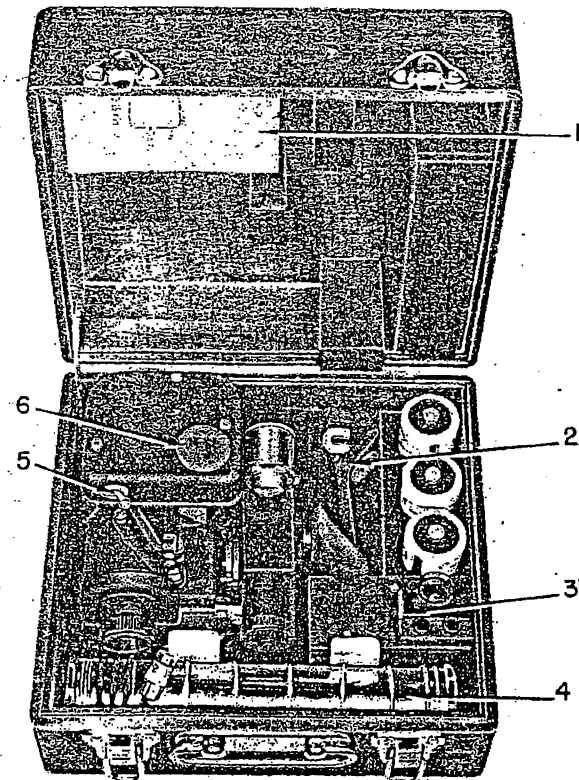

Figure 6—Carrying Case
x. BATTERY CASE ASSEMBLY.—The battery case assembly (4, figure 6) consists of a three-cell battery case with a four-foot cable and connector plug. It will accommodate three standard 1.5-volt dry cells, size D,
KEY TO FIGURE 6
y. PLASTIC DISC KIT.—The plastic disc kit (1, figure 6) consists of three marking discs and thirty marker lead: enclosed in an envelope in the carrying case.
z. CARRYING CASE. (See figure 6.)—A carrying case is provided with each instrument. The case is designed with compartments to store the sextant, telescope, battery case (4), plastic disc kit (1), sextant bracket (2), Allen-head wrench (3) for No. 6-32 Allen headless set screws, 2 spare bulbs and three dry cells.